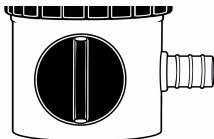
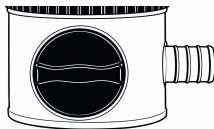

Fig. 2 - Drain closed
Fig. 3 - Drain open
- 2.** Add a suitable amount of water to the canister, refit the lid and fasten the latches. Before adding water, check that the drain valve is closed, with its arrow pointing down (Fig. 2).
- 9.** Check the waste-collection chamber regularly and drain it before waste builds up and hardens. Disconnect the power, then turn the drain valve 90° anticlockwise until its arrow aligns with the drain outlet (Fig. 3). After draining, return the valve to the closed position (Fig. 2). The drain outlet can also be used for water changes.